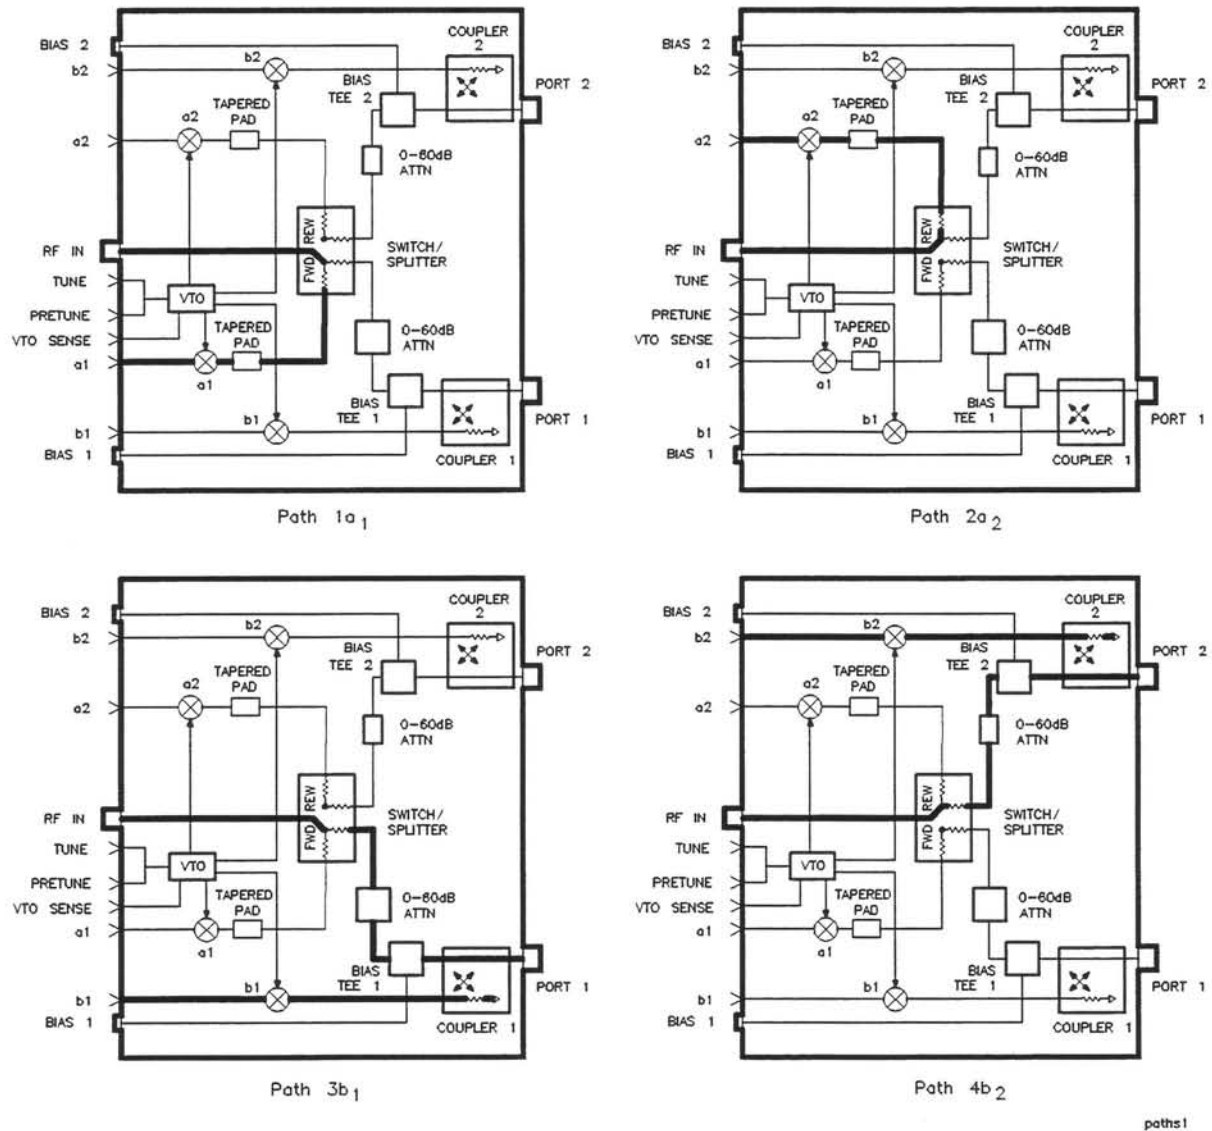

Figure 5-9. RF Path 1 through Path 4, HP 8517B Standard
Six RF signal paths in the test set are examined by observing their associated IFs. Figure 5-9 through Figure 5-10 show the assemblies that are common and those that are unique in paths 1 through 6.
The RF signal paths are shown in Figure 5-9.
- d. Each trace should typically look like the examples in Figure 5-9, ± 5 dB.